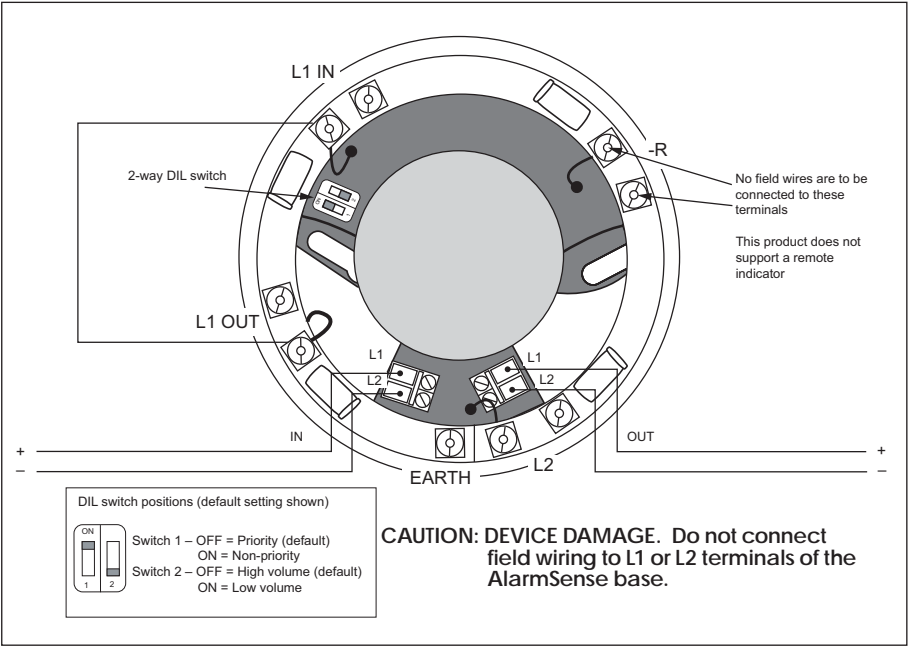

Fig. 2b Stand-alone Sounder/Sounder Visual Indicator Base
With reference to Fig 2b, for stand-alone sounders or sounder visual indicators, fitted with either a white cap, Part No. 45681-294 or red cap, Part No. 45681-295, carry out the following:
- 2. A wire link (not supplied) is required between L1 IN and L1 OUT on the outer ring terminals to disable the head removal signal, as shown in Fig 2b.